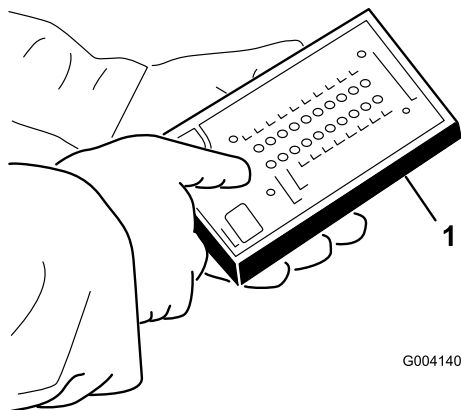

Figure 42
3. Connect the Diagnostic ACE display connector to the harness connector (Figure 42). Make sure correct overlay decal is positioned on Diagnostic ACE display.